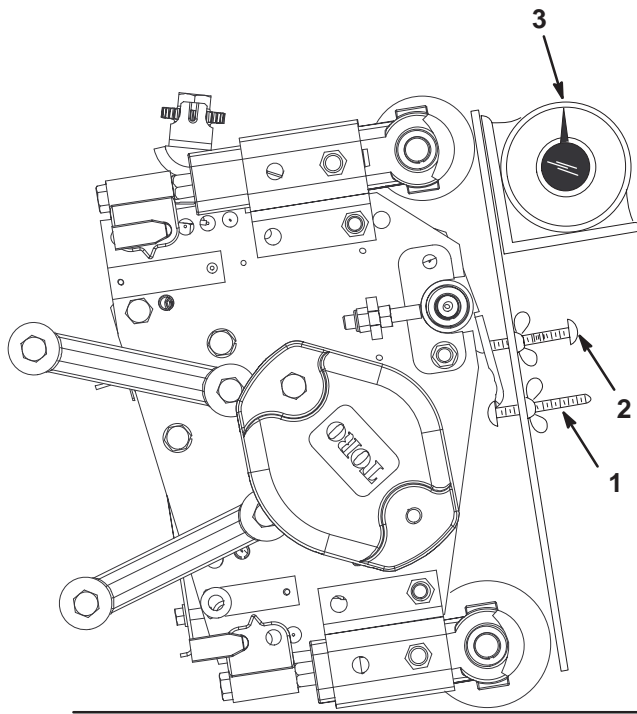

Figure 14
3. Place the gauge bar across the front and rear rollers. The first screw head needs to fit snugly over the edge of the bedknife while the gauge bar contacts the rollers (Fig. 14).
5. Place an angle indicator on the gauge bar and record the gauge bar angle (Fig. 14).